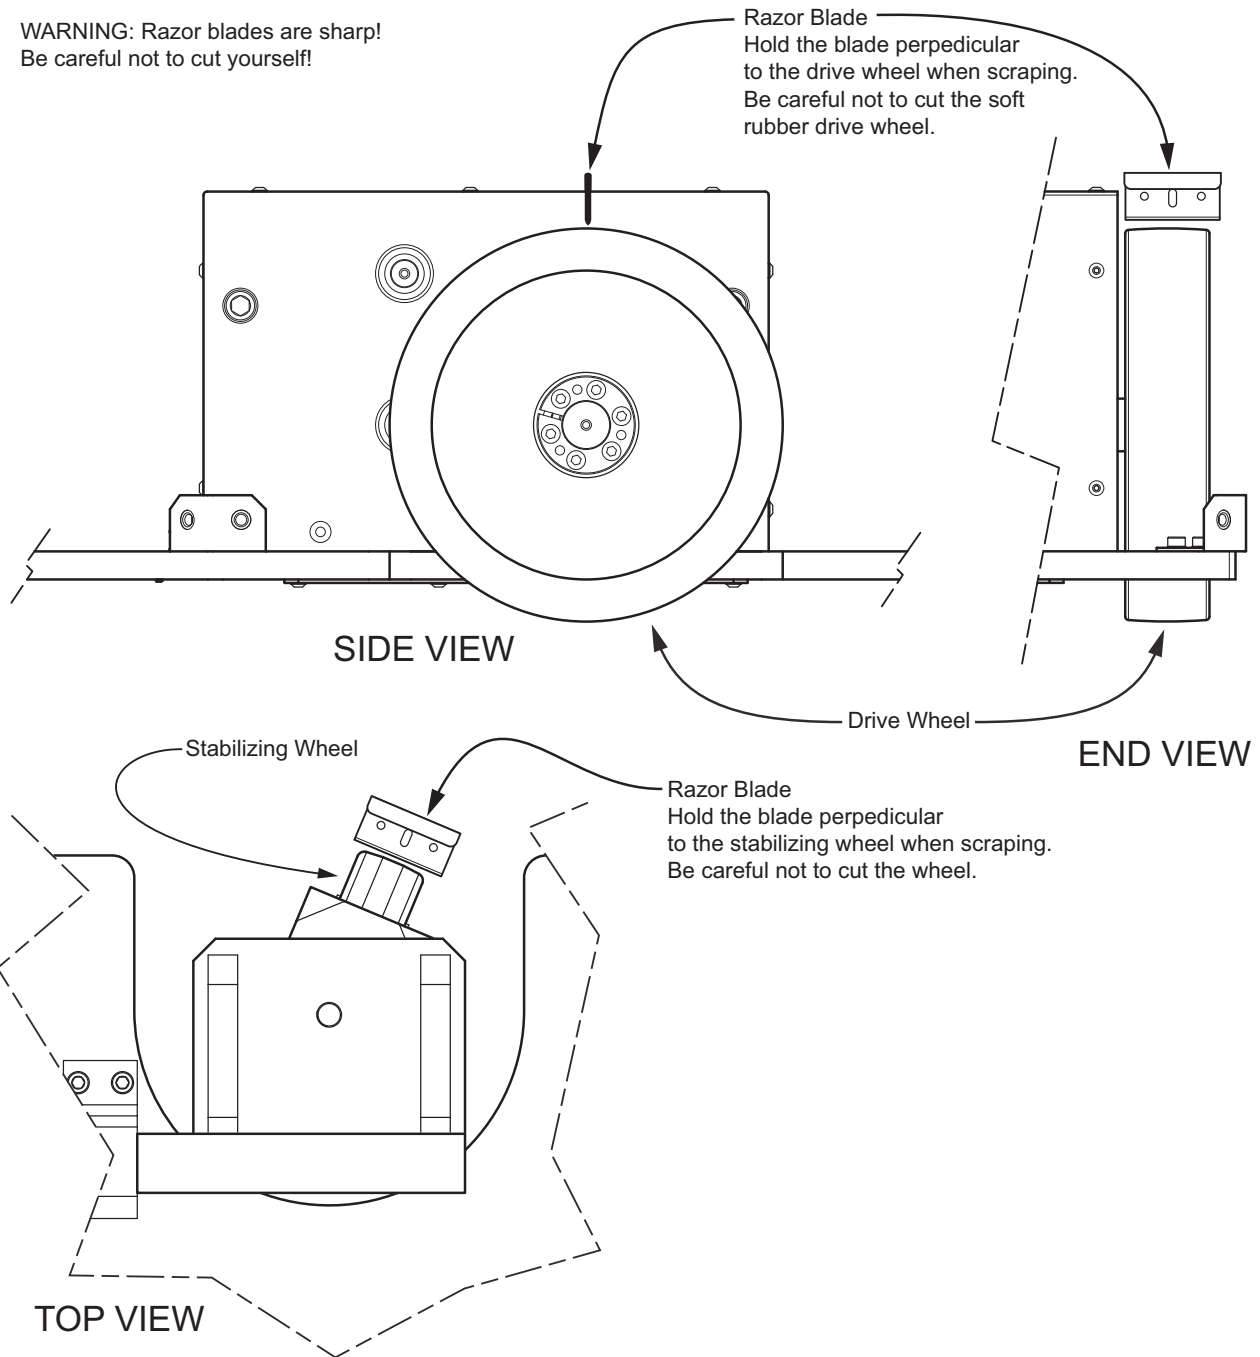

Figure 8 - Scraping the Wheels to Remove Embedded Debris
- Holding a razor blade perpendicular to the wheel surface, scrape the exposed surface of the wheel to remove embedded debris. See **Figure 8**.